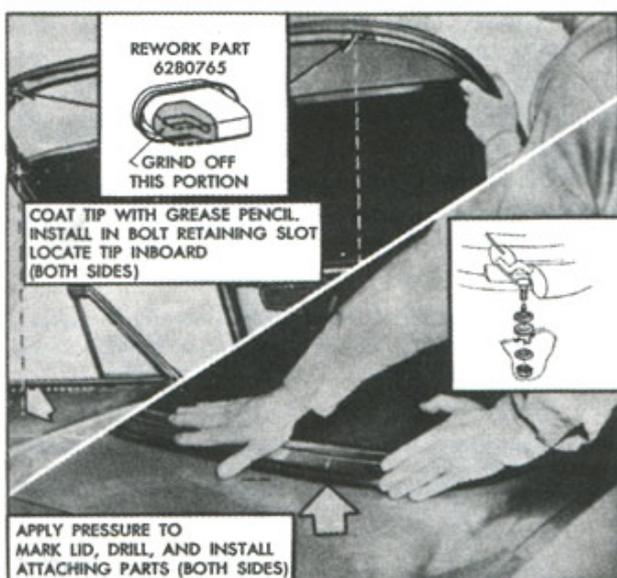

Fig. 2 — Hardtop Attachments at Rear
The only other parts required for installation are two plastic retainers (same as used on Corvair and Chevrolet door inner panels for trim panel retention). These plastic parts are first modified and then positioned on the hardtop at the rear bow bolt retaining location, as shown in Figure 2.
1. Rework the two Plastic Retainers (#6280765), as shown by figure 2.